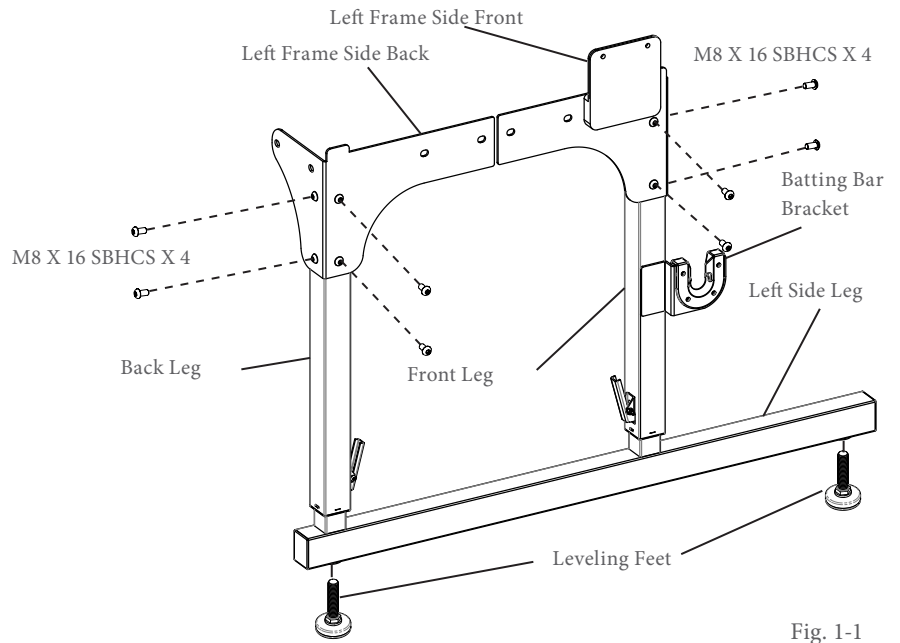

Fig. 1-1
(Fig. 1-1)
1-1: Screw two (2) leveling feet about half way into the bottom of the left side leg, as shown in Fig. 1-1.